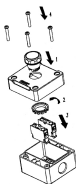
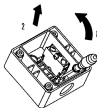

Figure 5 Assembly process
Figure 6 Disassembly drawing of the contact assembly
4) See Figure 5 and Figure 6 for assembly and disassembly drawings.